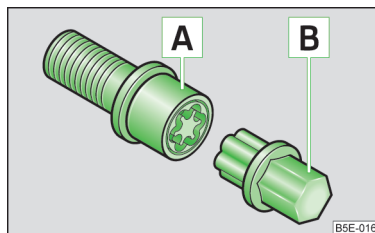

Fig. 89
The anti-theft wheel bolts protect wheels from being stolen. This can only be **[B]** with the attachment » fig. 89 **loosened / tightened**.
- › Insert the attachment **[B]** » fig. 89 as far as it will go on the anti-theft wheel bolt **[A]**.
- › Insert the wheel wrench onto the wheel bolt to the stop. Use the associated attachment for the anti-theft wheel bolts » fig. 89 on page 88.